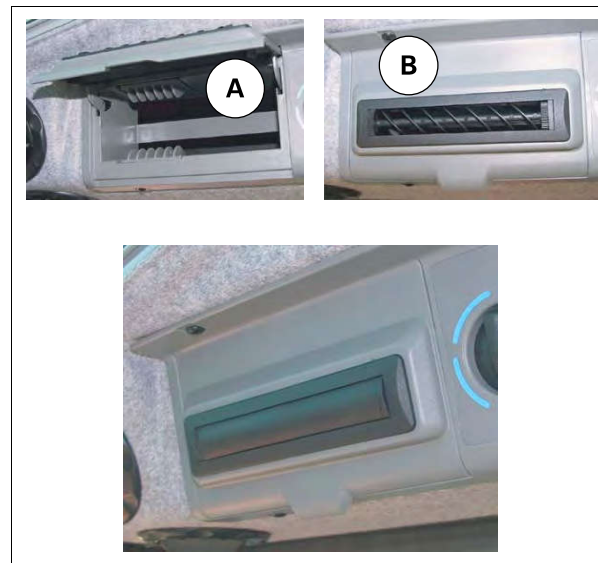

Fig. 17.
- (7) Radio slot.
- (8) Roof hatch.
- (9) Roof sun visor
- (10) Chiller fig. 17